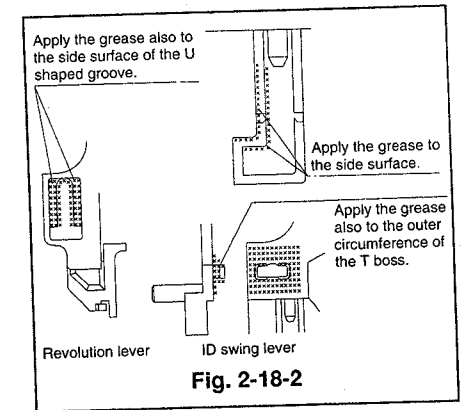

Fig. 2-18-2
- 1 Apply the grease(PG-641)[859D055O30] to the areas shown in Fig. 2-18-2 of the new revolution lever and the ID swing lever.